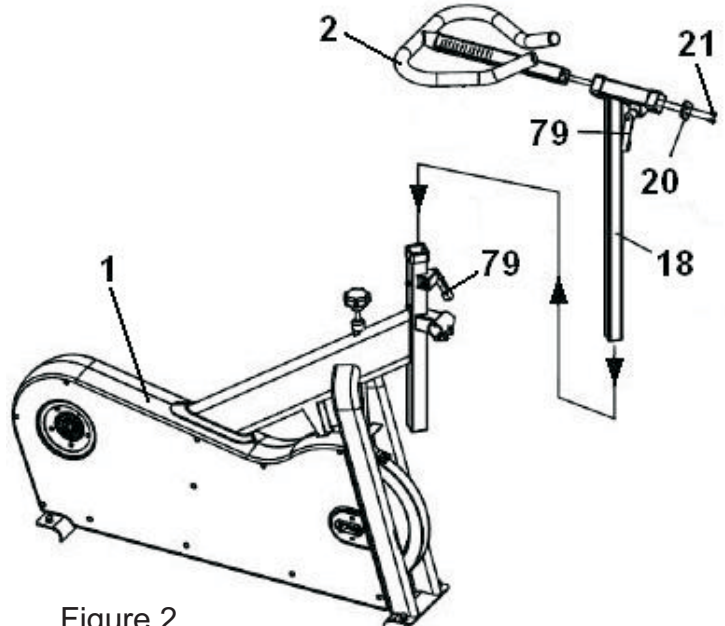

Figure 2
Assemble the Handlebar Stem (2) with the Handlebar post (18); then insert it into the Main body (1) in the direction of the arrow (fig. 2). Tighten the knob (79) by turning it clockwise and attach the end cover (20) using screws (21). Next, insert the Handlebar post into the boss on the main body (1) as shown in figure 2. Position it for average height and tighten by turning the retaining knob (79) clockwise